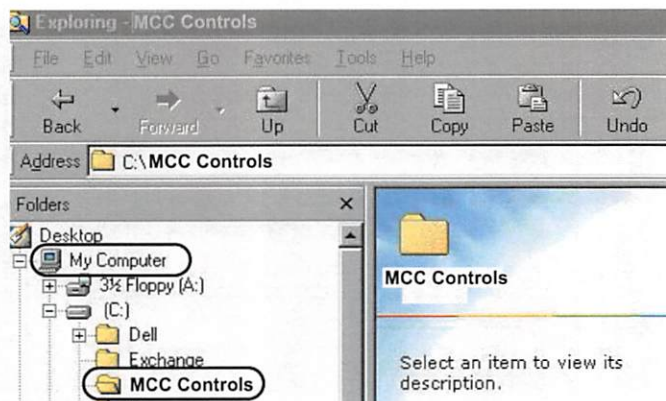

FIGURE 1
2. Click on **My Computer** Icon (see Figure 1).